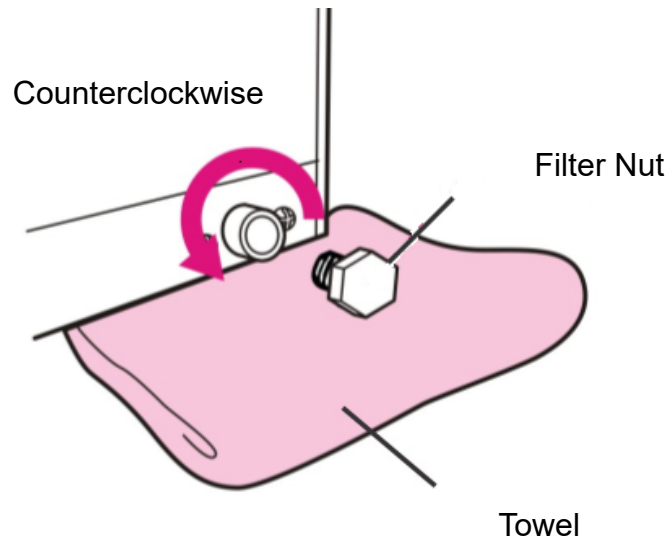
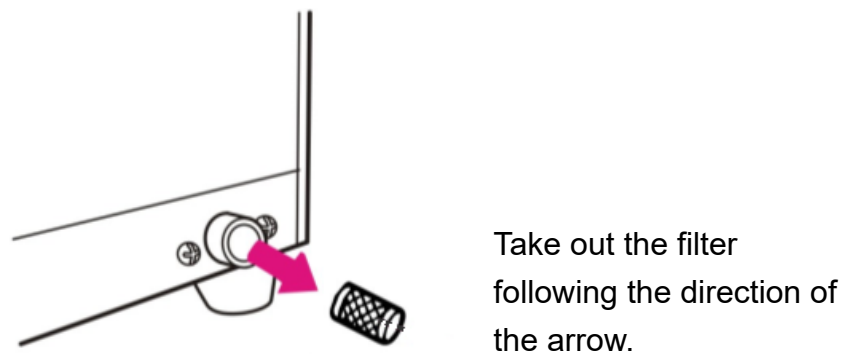

Figure 49
Figure 50
Press the "SET" key in the standby mode, and then press the increase (▲) or decrease (▼) until the "7. Cycle:" shows the number of machine uses, as shown in Figure 49.
- Use a wrench to unscrew the filter nut counterclockwise as Figure 49 & Figure 50.